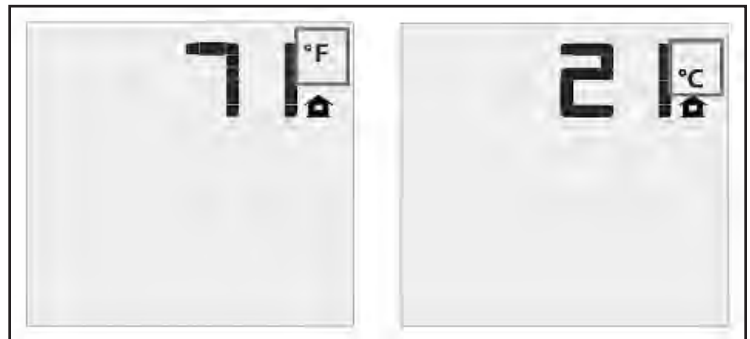

Figure 10: Remote Control Display in Fahrenheit and Celsius.
With the system in the "OFF" position, press the Thermostat Key and the Mode Key at the same time. Look at the LCD screen on the transmitter to verify that a °C or °F is visible to the right of the Room Temperature display (see Figure 10).
3. Then remove the six screws that hold the valve cover in place (pointed out in Figure 10).